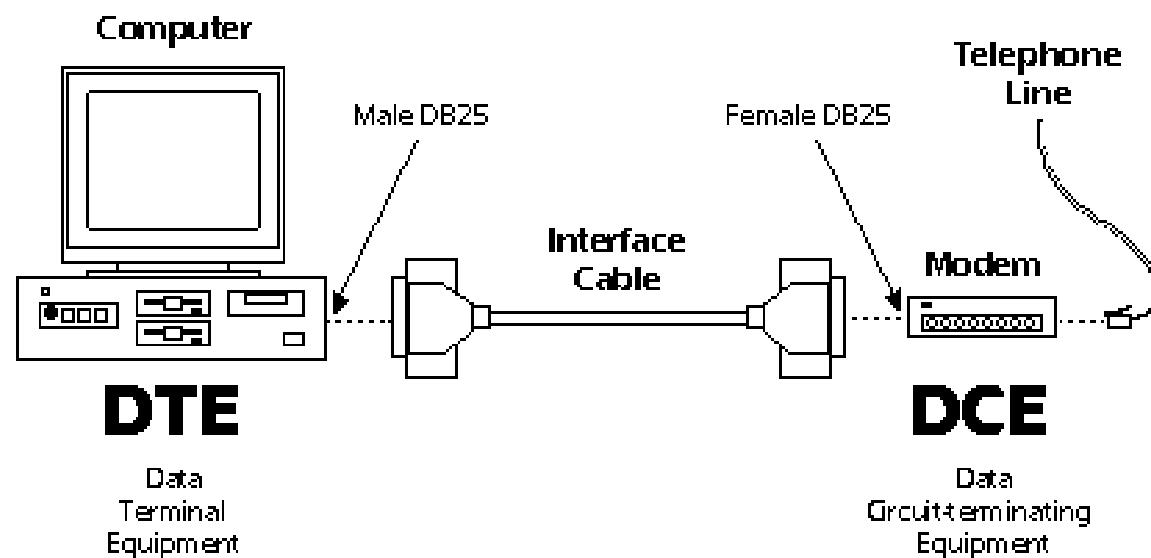

Figure 8.63 The DTE and DCE connections.
- In general, a modem is a **DCE** and a computing device that connects to a modem is a **DTE**. Figure 8.63 shows an illustrating block diagram for these equipments.